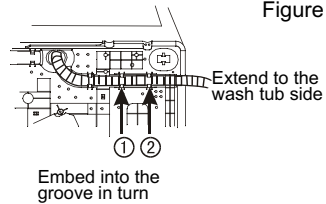

Figure 3
- Embed the drain hose into the groove along the side of the wash tub in the order of (1)~(2), heading for the side of the wash tub. (See to Figure 3).